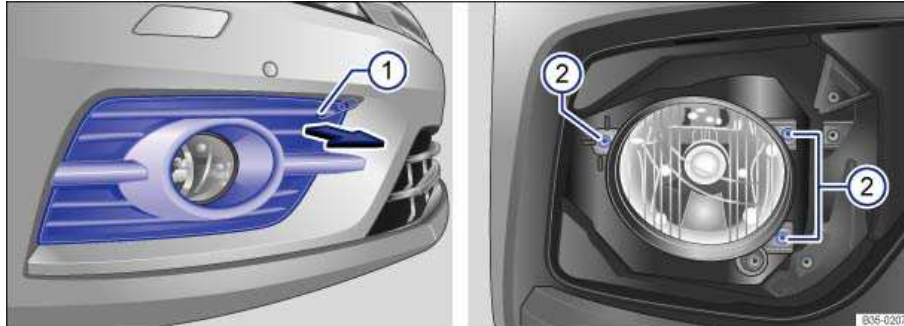

Fig. 204 In the right front bumper: Fog light.
| 3. | Insert the wire bracket into the opening ⇒ fig. 204 (1) on the cover and pull it forward in the direction of the arrow with the cover and remove. |
| 14. | Install the screws ⇒ fig. 204 (2) . |
| 15. | Insert the cover in the bumper opposite the direction indicated by the arrow ⇒ fig. 204 . The cover must click into place securely. |